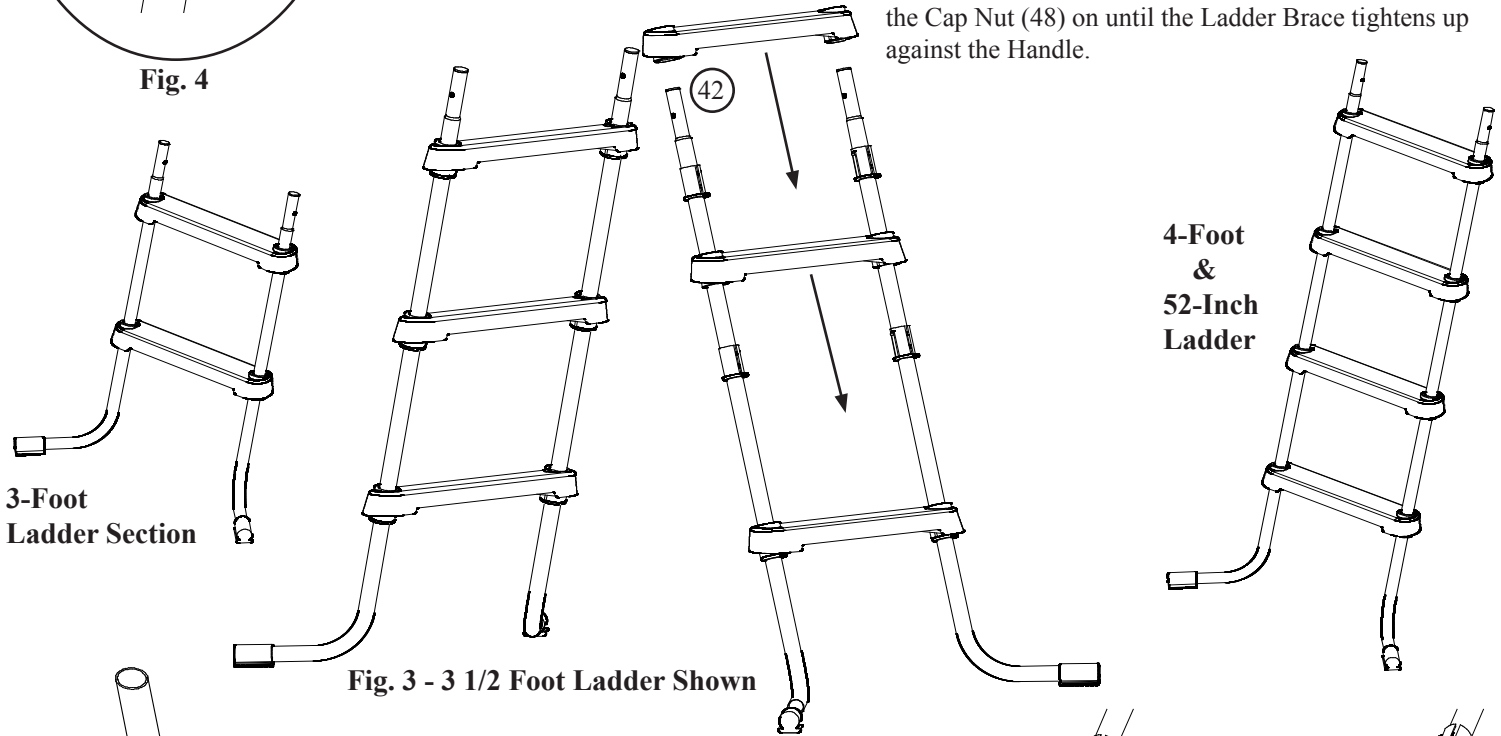
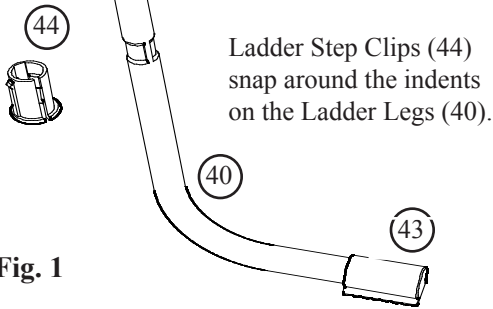
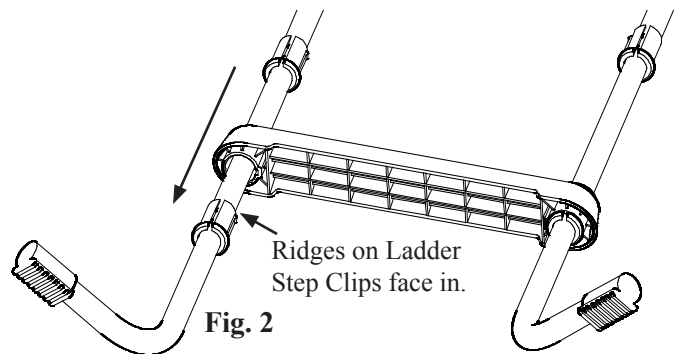

Fig. 3 - 3 1/2 Foot Ladder Shown
Fig. 1
Fig. 2
1. Separate the Ladder Legs (40) – 2 pieces each left and right. Look for the “L” and “R” on the top of the legs.
2. Start with one “R” ladder leg section (40). Carefully pry open one ladder step clip (44) from the side, just enough to get over the top section of the ladder leg, and slide it from the top of the leg down to the lowest indented section as shown in Figure 1. The ridge on the ladder clip should be on the inside of the leg as shown in Figure 2. Repeat with “L” leg section.
3. Slide a step (42) down over both legs. Make sure that the side of the step marked with an “R” is on the right side leg. Slide the step down until the ladder step clips (44) inserts into the underside of the step and the ridges inside of the clips lock into place. The ladder step clips should stay in the indented section of the ladder leg as you press the steps down over them. The ladder step clips should insert flush against the bottom of the step. See Figure 2.
4. Repeat Steps 2 and 3, installing the rest of the ladder step clips (44) and steps (42) for the first section.
6. The Machine Screws (45) should be installed from the inside of the Handle (41), and out through the Ladder Handle Brace with Safety Label (49) on the outside. Make sure that the English warning label is facing out on both handle sections. Install the Lock Washer (47), and thread the Cap Nut (48) on until the Ladder Brace tightens up against the Handle.
7. Stand both ladder leg sections in the upright position, with feet facing outward, as shown in Figure 3. Place the ladder handles (41), with the ladder handle braces on the outside of the ladder, on top of both ladder leg sections.